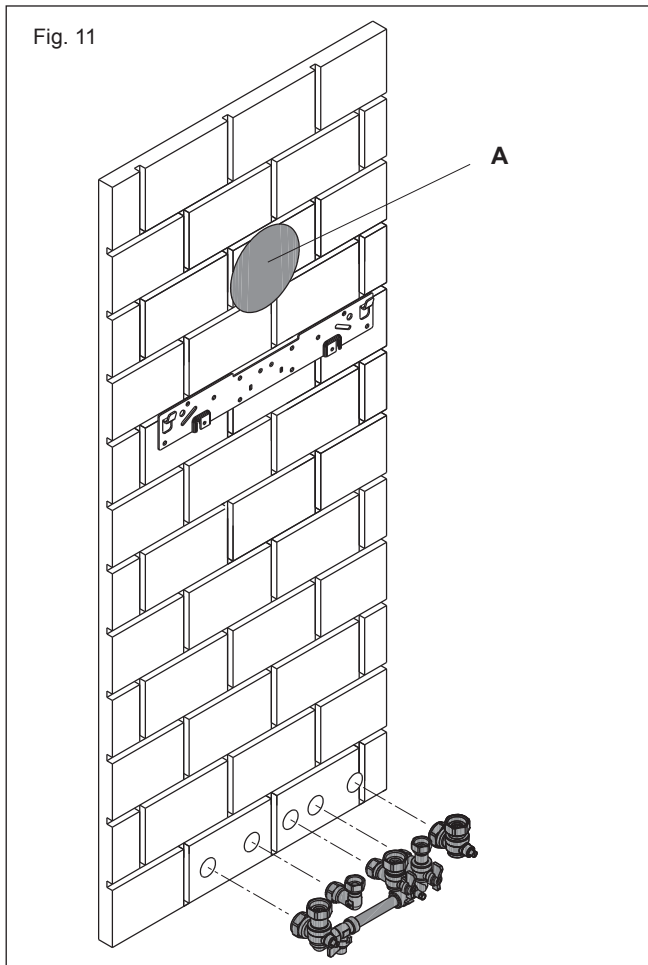

Fig. 11
When the position of the appliance has been decided – using the template supplied – carefully mark the position of the wall mounting bracket (see Fig. 11) and flue-hole (if applicable).
Fig. 11: Using the template (A) provided with the kit, mark and drill a 125mm hole (B) for the passage of the flue pipe. The hole should be drilled to ensure any condense fluid that forms, is allowed to drain back to the appliance. The fixing holes for the wall-mounting bracket should now be drilled and plugged, an appropriate type and quantity of fixing should be used to ensure that the bracket is mounted securely. Once the bracket has been secured to the wall, mount the appliance onto the bracket.